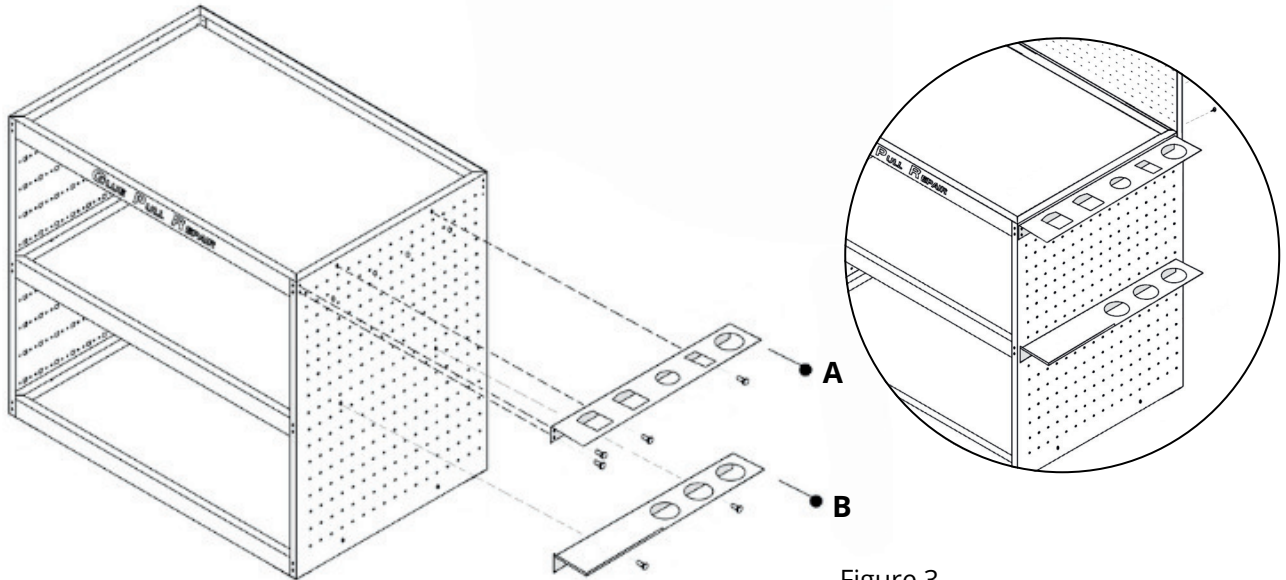

Figure 3.
8) Locate the tool holders in the bottom tray of the lower cart (see Figure 3.).
9) Install the top tool holder **(A)** at the top shelf location using the (4) (M6) screws already located in the side of the cart or in the hardware bag.
10) Install the middle tool holder **(B)** at the mid shelf location using the (2) (M6) screws already installed in the side of the cart.